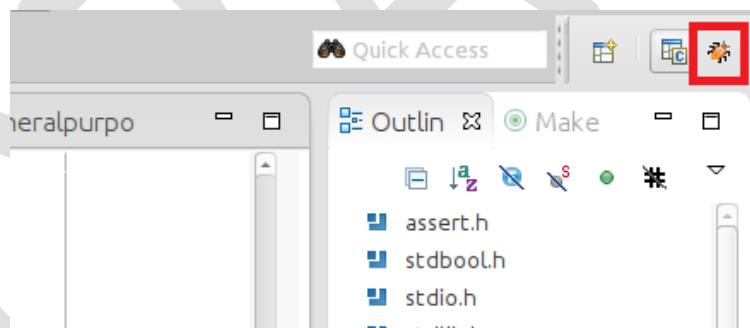

Figure 8-37. Switching to the DS-5 Debug Perspective
30. Switch to the *DS-5 Debug* perspective, as shown in Figure 8-37.